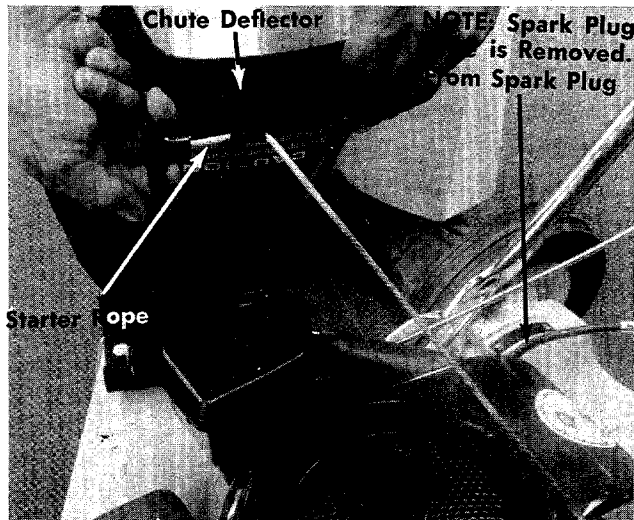

FIGURE 6.
1. Remove and ground the spark plug wire. See figure 6.
4. Lift the chute up and hold in place with the starter rope. See figure 6.